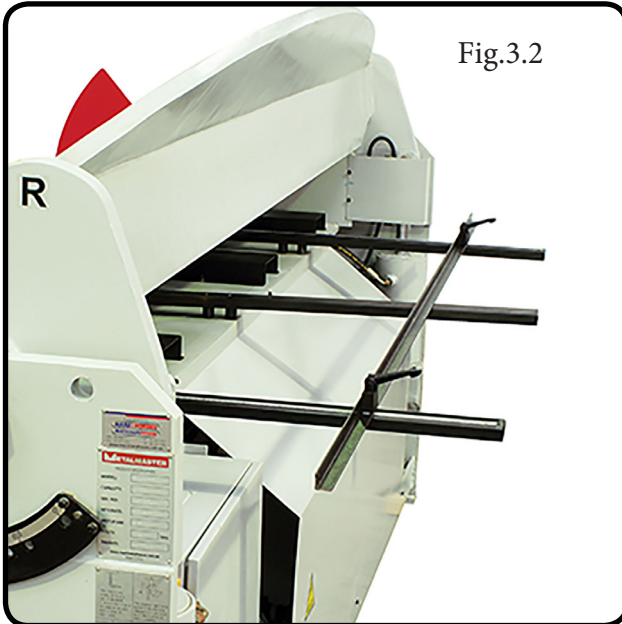

Fig.3.2
- Bolt on the arms that support the back gauge. Ensure they are square to the table. (Fig 3.2)